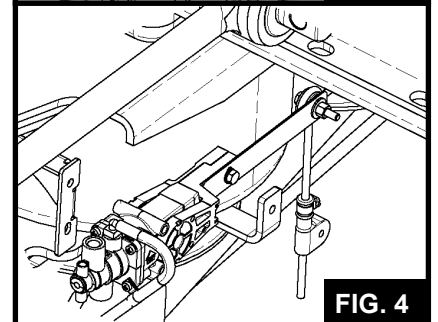

FIG. 4
- 6.3 Disconnect the height control valve linkage (See FIG. 4).